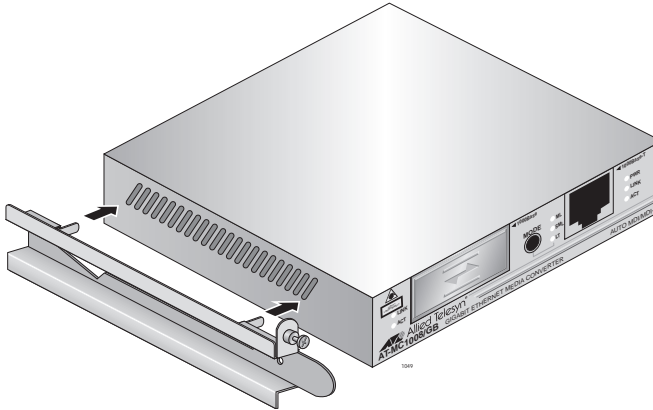

Figure 7. Aligning and Connecting the Mounting Rail to the Media Converter
3. Position the media converter so that its top is facing up, align the mounting rail with the left side of the media converter, and insert the tabs on the mounting rail into the front and rear air vents on the media converter as shown in Figure 7.